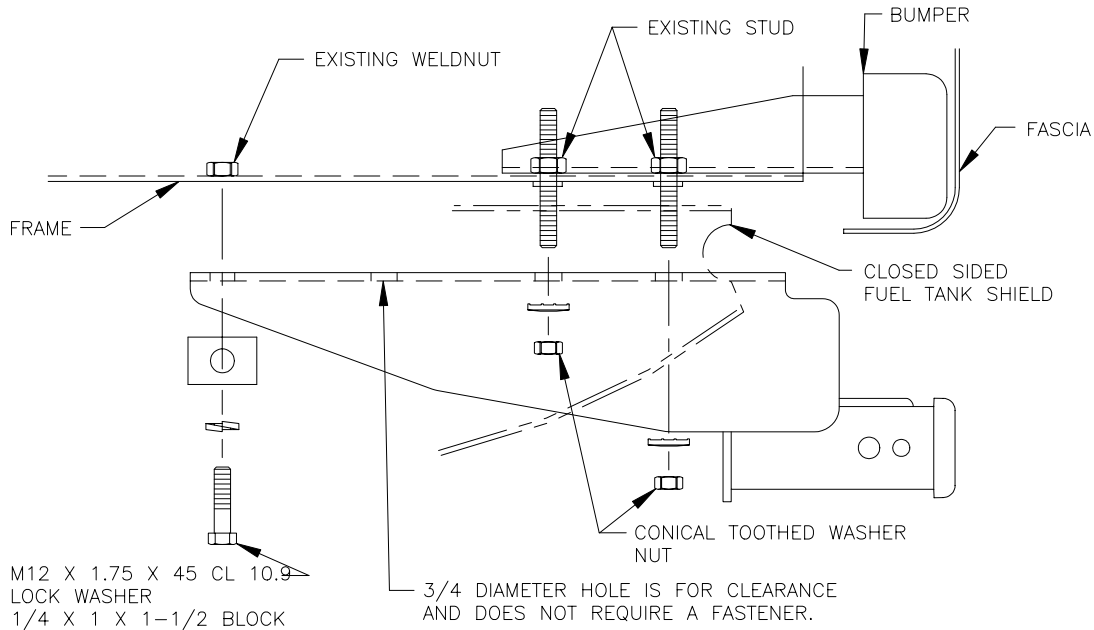

FIGURE 1
**NOTE:** TWO INSTALLATION OPTIONS ARE POSSIBLE DEPENDING ON VEHICLE CONFIGURATION. REFER TO SHEET 2 FOR FIGURES 1 AND 2.
VEHICLES EQUIPPED WITH CLOSED SIDED FUEL TANK SHIELD, USE FIGURE 1:
**NOTE:** FUEL TANK SHIELD WILL BE SANDWICHED BETWEEN FRAME AND HITCH SIDE BRACKETS (SEE FIGURE 1).